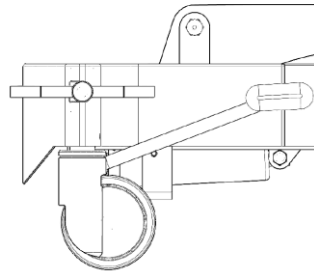

Figure 16
1. Press the wheel-block pedal down to unblock the locked wheel (see Figure 16); the locked wheel is now unblocked and the shower trolley can be moved in all directions.
- Unlock the brake pedal of wheels (Figure 16)